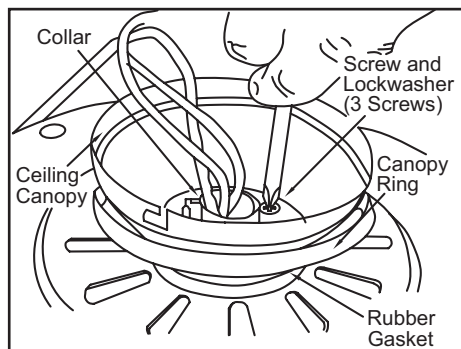

Figure 11
5. Place the rubber gasket over the remaining three screws, route the wires exiting the top of the fan motor through the canopy ring (make sure the slot openings are on top), then proceed to place the ceiling canopy over the collar at the top of the motor (Figure 11).
6. Align the mounting holes with the holes in the motor and fasten, using the three screws and lock-washers removed in step 4 (Figure 11).